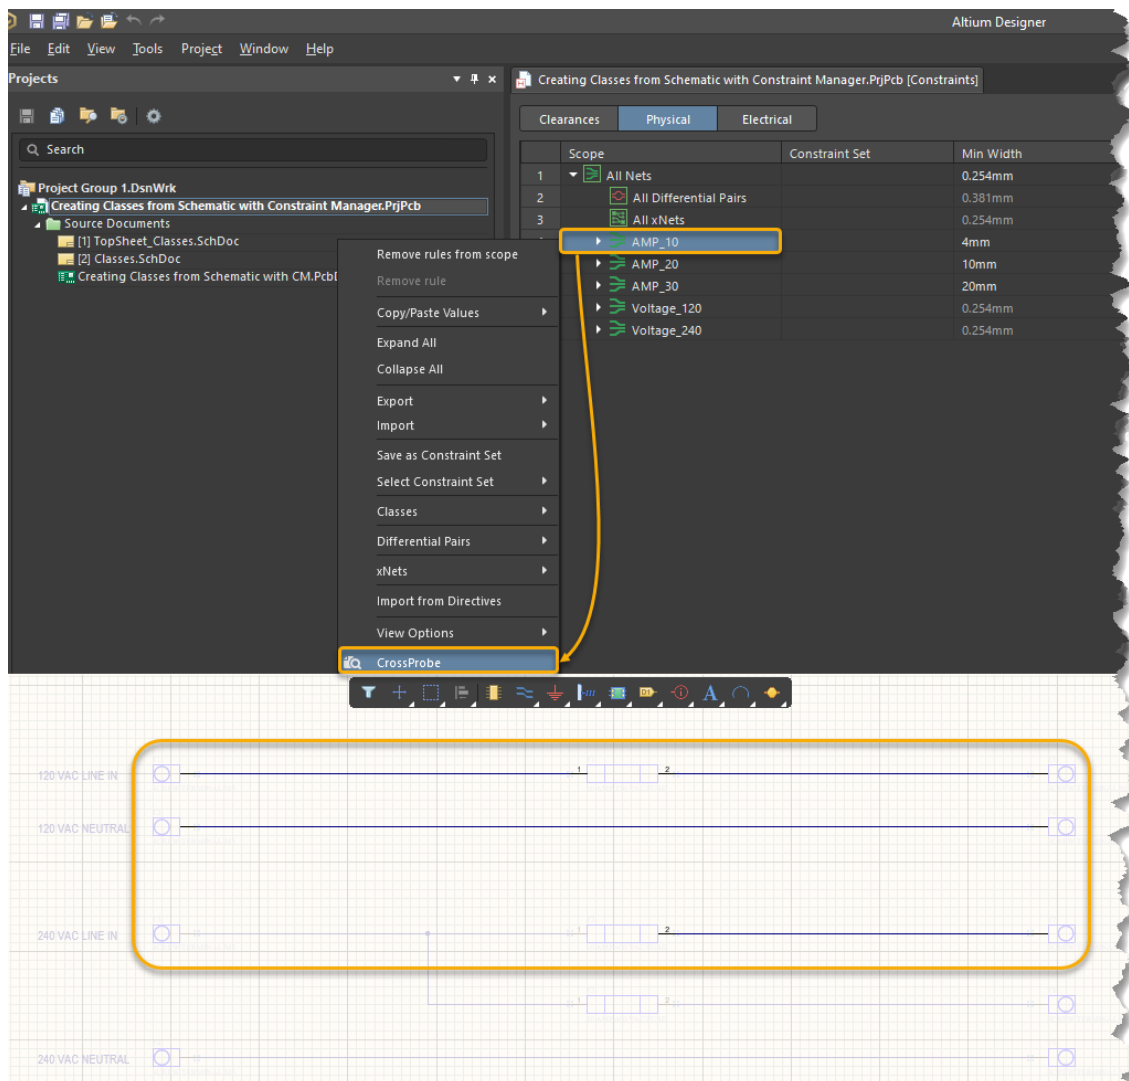

Figure 12. Cross Probe - Constraint Manager to Schematic
40. Select the class **AMP_10** in the constraint manager, right-click and select **Cross Probe**, Figure 12. View the applicable nets in the schematic page.